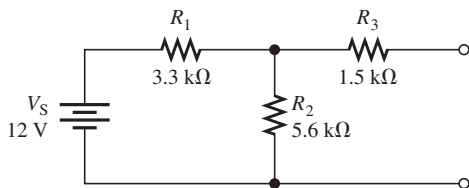

FIGURE 1-25
12. Draw the Thevenin equivalent circuit for the circuit shown in Figure 1-25. Show values on your drawing.
13. Assume a $1.0 \text{ k}\Omega$, $2.7 \text{ k}\Omega$ and $3.6 \text{ k}\Omega$ load resistor are connected, one at a time, across the output terminals of the circuit in Figure 1-25. Determine the voltage across each load.
14. Draw the Norton equivalent circuit for the circuit shown in Figure 1-25. Show values on your drawing.